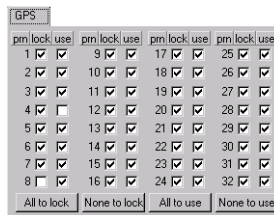

Figure 2-23. GPS Tab
- The first tab, as its name implies, deals with the GPS satellites (Figure 2-23).
lock	Checkmarks in this column indicate that the corresponding satellites are enabled for tracking. As shown in Figure 2-23, GPS satellite PRN 8 is disabled for tracking.
use	Checkmarks in this column indicate that the corresponding satellites are enabled for position computation. In Figure 2-23, GPS satellite PRN 4 is disabled for position computation.